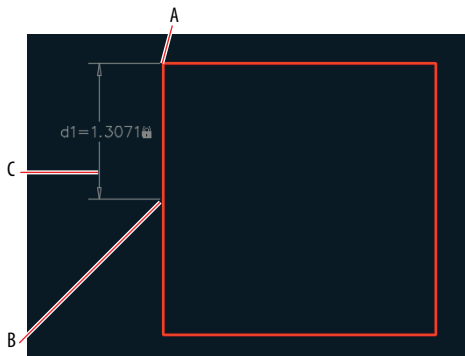

FIGURE 12.5 Creating a vertical linear dimensional constraint
2. Select the Parametric tab on the ribbon. Select the Linear constraint tool in the Dimensional panel, and click *constraint points* A and B, shown in Figure 12.5. Constraint points highlight in red on screen when you move the cursor near them. Click point C to locate the dimension line. Press Enter to accept the default dimension text. This dimensional constraint is automatically given the variable name d1.